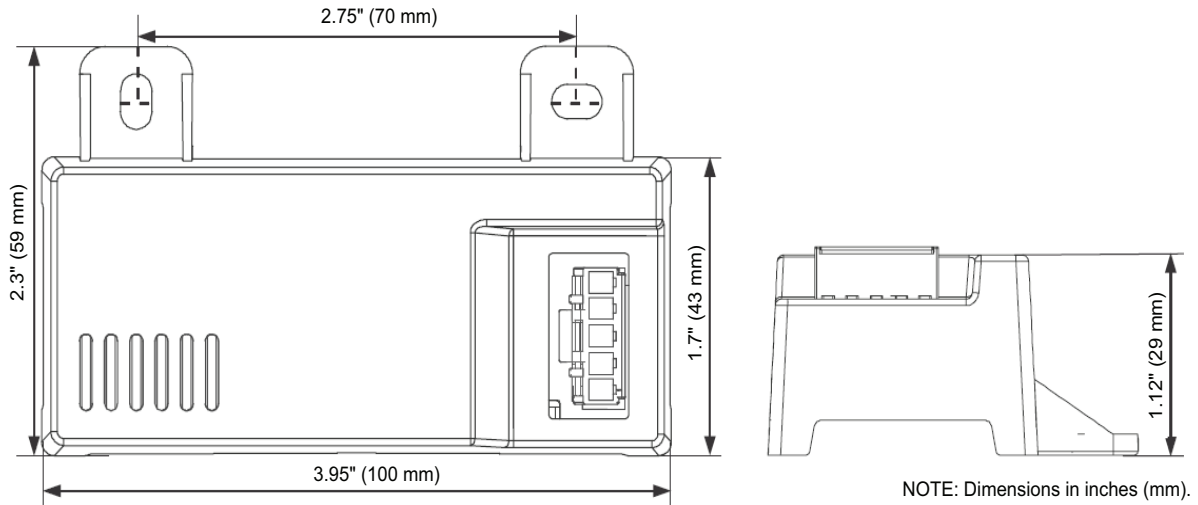
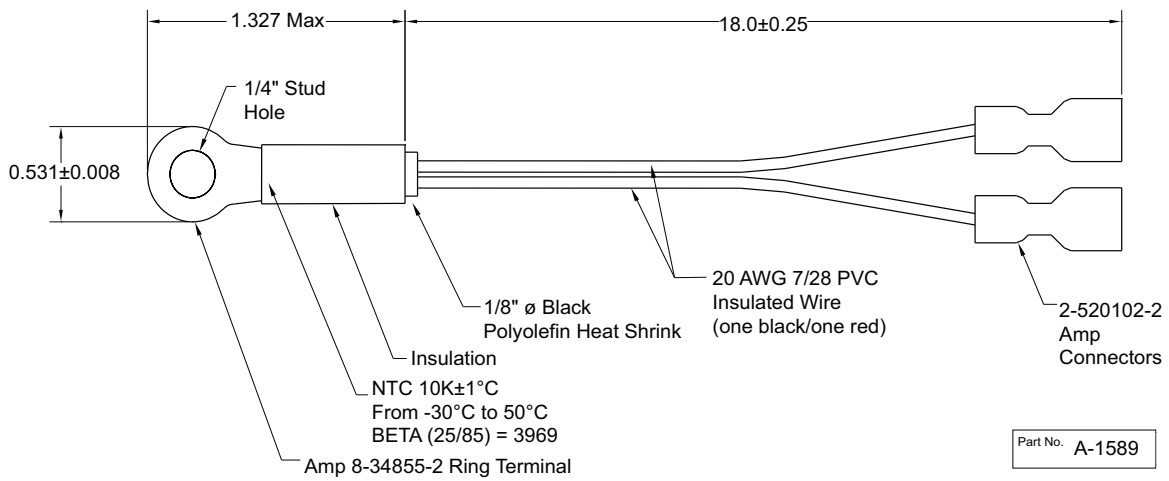
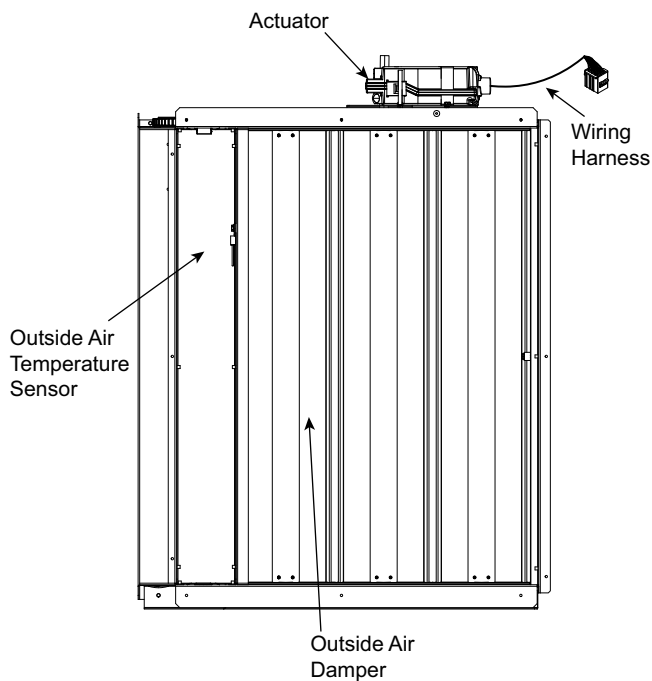

Fig. 78 — HH57LW001 Dimensional, Connection and Switching Information
Fig. 79 — HH79NZ039 Dry Bulb and Mixed Air Sensor Wiring
Fig. 80 — EconomizerONE Component Locations (CRECOMZR108A00 Shown)
When using the HH57LW001 enthalpy sensor (see Fig. 78) for outside air changeover, the existing HH79NZ039 dry bulb sensor (see Fig. 79) must be removed. The enthalpy sensor will be mounted in the same location as the dry bulb sensor (see Fig. 80). When the enthalpy sensor's OA (Outside Air) temperature, enthalpy, and dew point are below their respective setpoints, the outside air can be used for free cooling. When any of these are above the setpoint, free cooling will not be available. Enthalpy setpoints are configurable and create an enthalpy boundary according to the user's input. For additional details, see Fig. 81-82 and Table 33.
The optional enthalpy control sensor (P/N: HH57LW001) communicates with the POL224 economizer controller using the 5-wire harness, 48TC005213. The HH57LW001 sensor can be used as a single outside air enthalpy, a differential return enthalpy, or a differential return temperature sensor. Refer to the base unit control wiring diagrams found earlier in this book to wire the HH57LW001 enthalpy sensor for each option. Use Fig. 78 and Table 35 on page 55 to locate the wiring terminals for each enthalpy control sensor.
Economizers are shipped standard with an HH79NZ039 outside air dry bulb sensor (see Fig. 79). System default setting (high temp limit) is 63°F (17°C) and has a range of 48°F to 80°F (9°C to 27°C). Sensor is factory installed on economizer.
If installing the optional HH57LW001 enthalpy sensor, the HH79NZ039 dry bulb outside air sensor must first be removed. Wire sensor to harness 48TC005213 and the (5) wires from the harness to the EconomizerONE harness in the return air chamber. Harness 48TC005213 has a 5-pin plug that connects directly to the HH57LW001 enthalpy sensor. Refer to the base unit control wiring diagrams earlier in this book for wiring connections. Refer to Fig. 78 and Table 35.